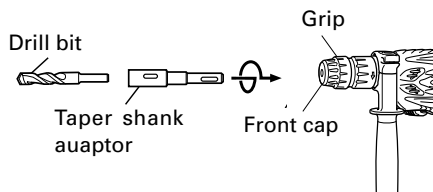

Fig. 17
- (1) Mount the taper shank adaptor to the rotary hammer. (Fig. 17)
- (2) Mount the drill bit (taper shank) to the taper shank adaptor. (Fig. 17)
- (3) Turn the switch ON, and drill a hole in prescribed depth.